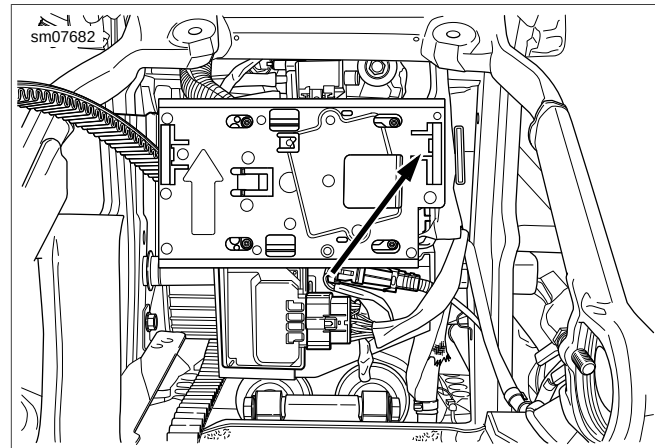

Figure 7-16. ECM
4. See Figure 7-16. Press in on tab and pull ECM panel away from latch.
3. See Figure 7-16. Push ECM panel forward and engage latch.